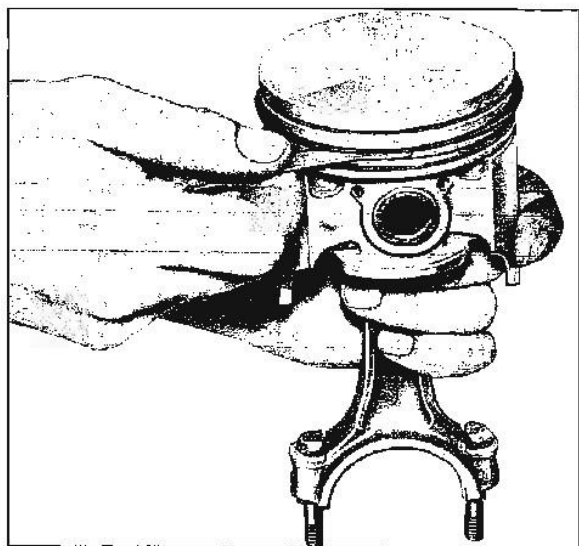

Fig. 6-67 Checking Side Clearance
5. Measure side clearance of rings in ring groove (Fig. 6-67) as each ring is installed. Clearance with new pistons and rings should be as follows: